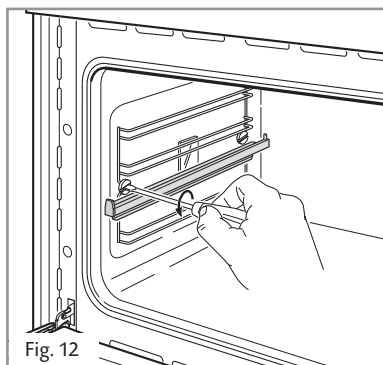

Fig. 12
- Remove the side racks by unscrewing the fixing screws (Fig. 12).